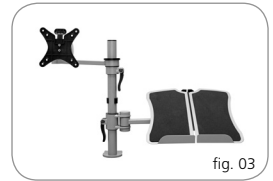

fig. 01
2. Available as a double arm (fig. 01), single arm (fig. 02) and laptop support (fig.03).